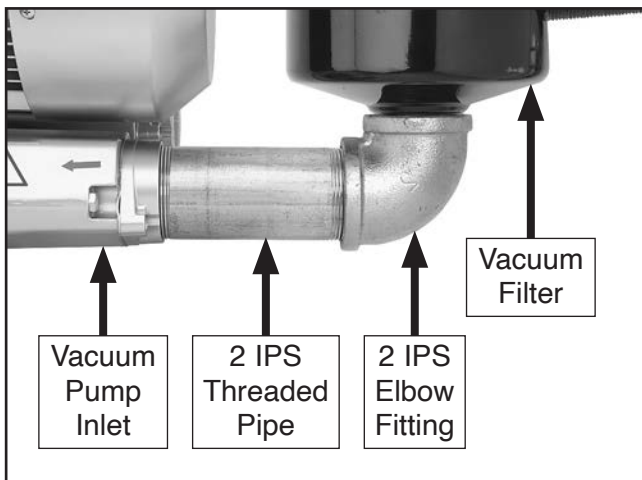

Figure 59. Pump to filter connection.
1. Connect 2 IPS elbow fitting to 2 IPS threaded pipe (see **Figure 59**).
2. Connect 2 IPS threaded pipe to vacuum pump inlet (see **Figure 59**).
3. Connect vacuum filter to 2 IPS elbow fitting (see **Figure 59**).